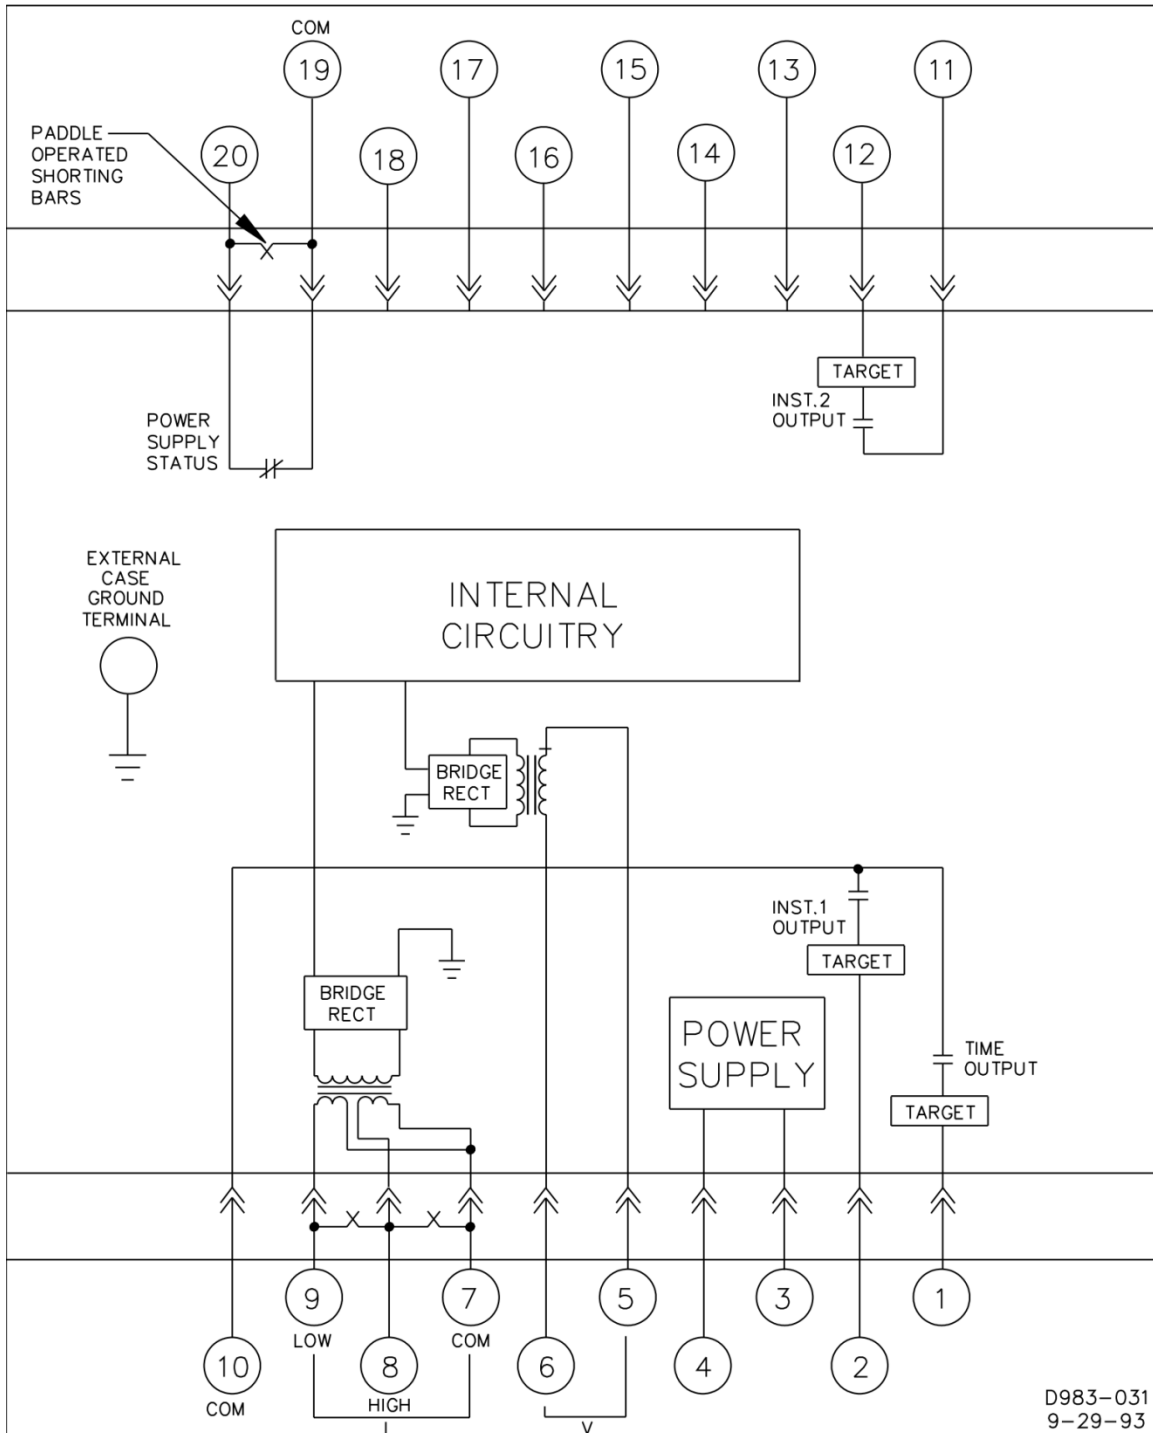

Figure 4-20. Typical Internal Diagram, Sensing Input Type L
- Figure 4-20: Typical Internal Diagram, Sensing Input Type L